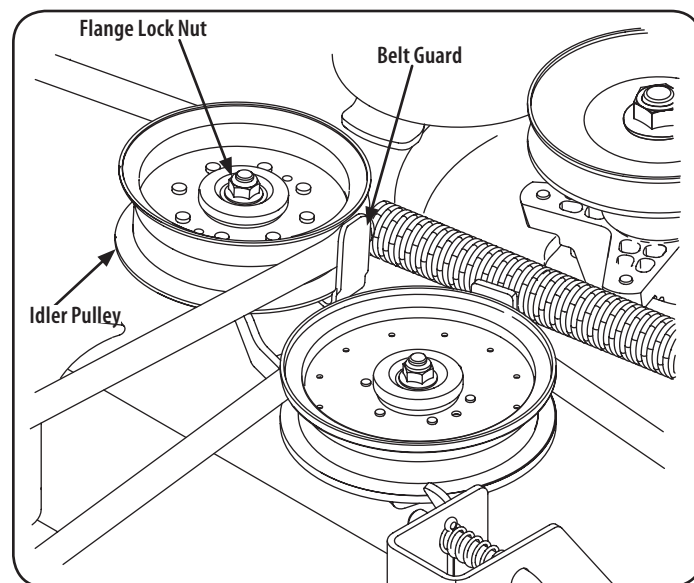

Figure 37
- a. Loosen, but do not remove, the movable idler pulley and belt guard by only loosening the flange lock nut securing the idler pulley to the idler arm. See Figure 37.
- d. Place the belt around the idler pulleys removed in step 3. Once in place, retighten the flange lock nut on the idler pulley to secure the assembly. See Figure 37.